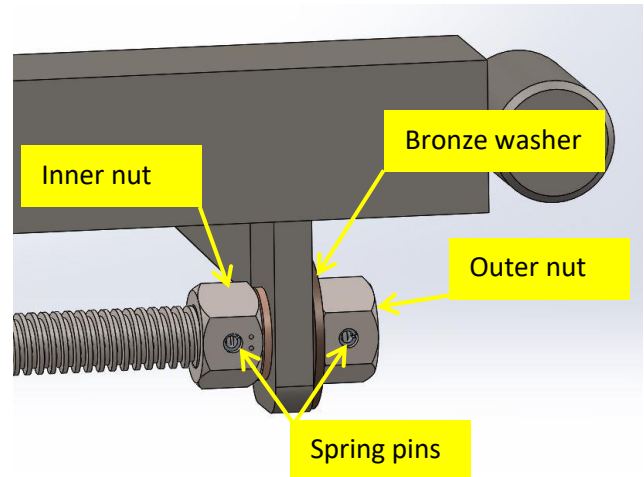

Figure 1
2. Remove the spring pins in the acme nuts closest to the rear of the **HydraWinder**, spin off the outer nut and remove the bronze washer. **Figure 1**